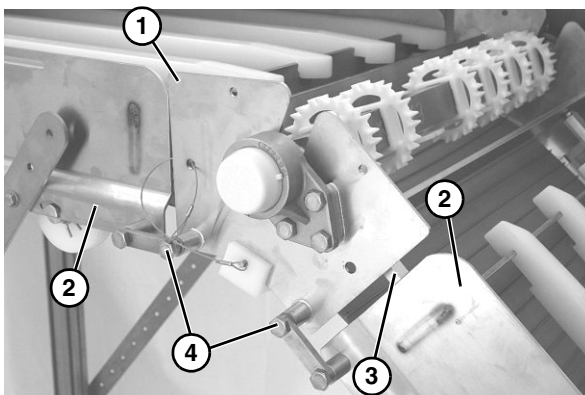

Figure 13
1. Attach upper knuckle (**Figure 13, item 1**) to frame (**Figure 13, item 2**) with hex rods (**Figure 13, item 3**) and bolts (**Figure 13, item 4**).